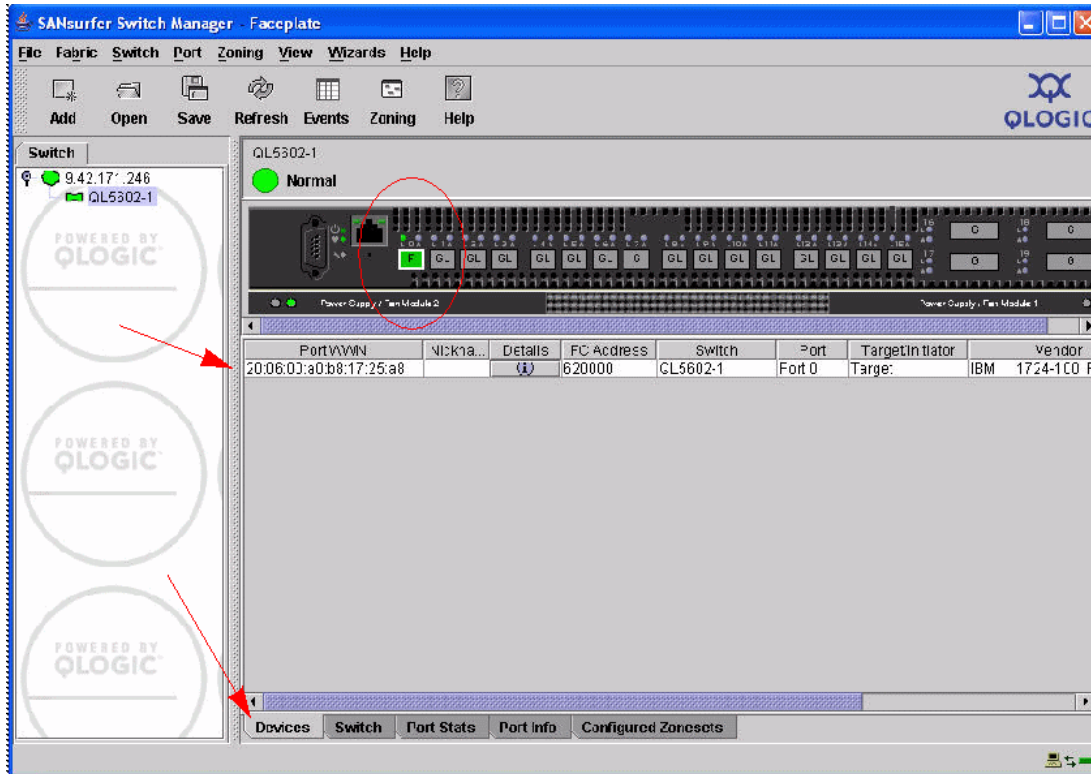

Figure 7-11 PortWWN window
- Verify that a successful login occurs by checking for device registration in the *nameserver*. Observe that the port login indicator in the Faceplate image is green. Select the port and in the devices tab verify the PortWWN of the device appears (Figure 7-11).